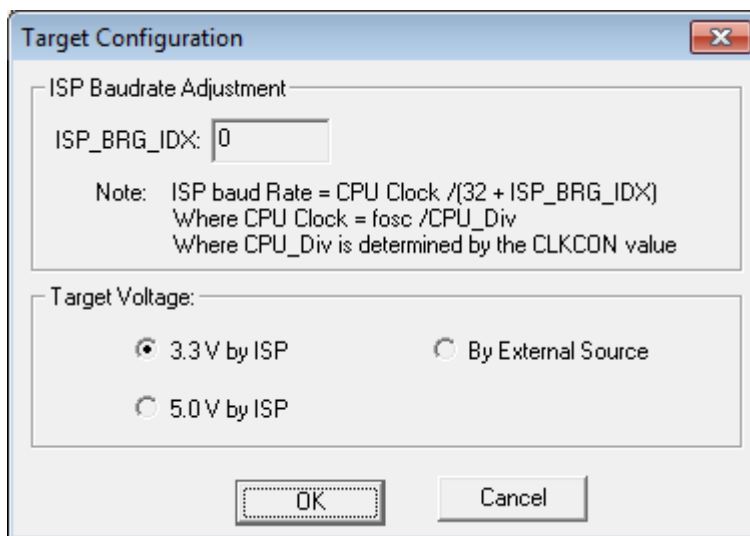

Figure 10. The Target Configuration Dialog
10. From the target Configuration dialog, enter “0” on **ISP_DBRG_IDX** and select the **3.3V by ISP** button and Click **OK**. See Figure 10.